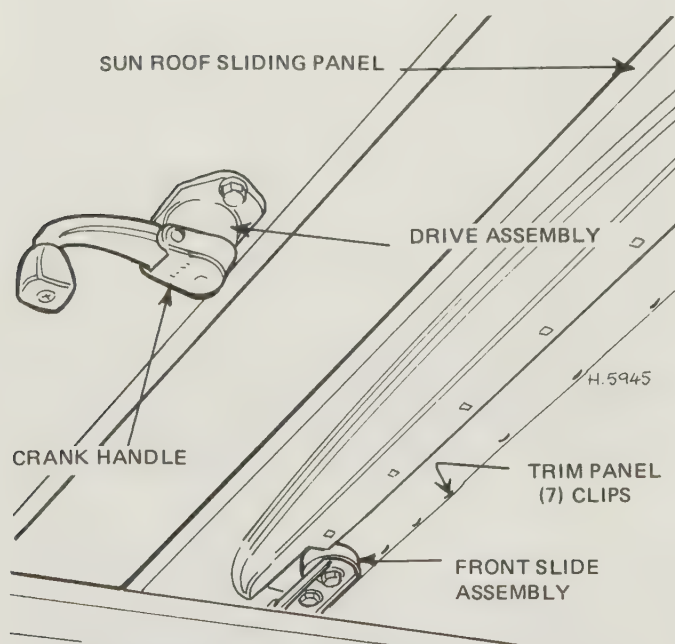

Fig. 12.29. Sliding roof trim attachment points (Sec. 43)
- 1 First remove the inner trim panel by opening the sunroof approximately five inches and pulling out the seven clips holding the inner trim panel to the main sliding panel (see Fig. 12.29).